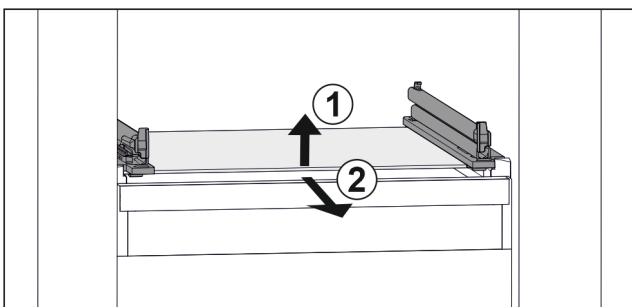

Fig. 68 Example illustration of glass shelf
- ▶ Lift glass shelf at the front. Fig. 68 (1)
- ▶ Take out glass shelf to the front. Fig. 68 (2)